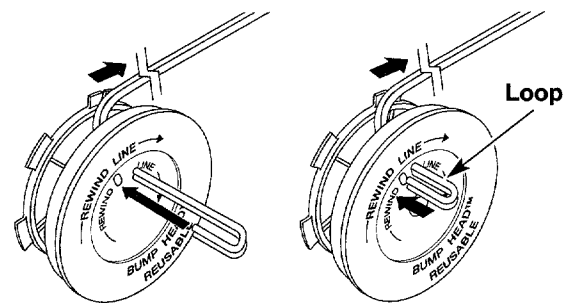

Figure 27
- Take approximately 12 feet (3.65 m) of new trimming line. Insert one end of the line through one of the two holes in the inner reel. Pull the line through the inner reel until only about 4 inches is left out. See Figure 27.
- Insert the end of the line into the open hole in the inner reel and pull the line tight to make the loop as small as possible, See Figure 27.